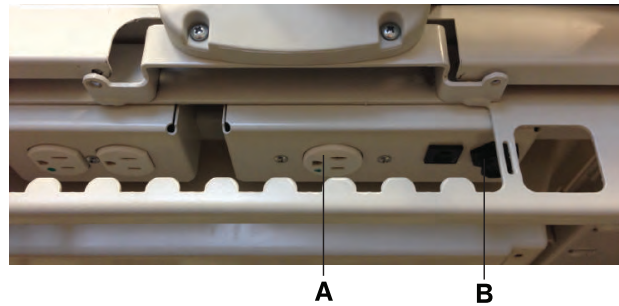

Figure 35: Auxiliary mattress connector outlet
2. Connect the integration cable from the support surface to the auxiliary mattress connector (B) (Figure 35 on page 53).
3. Plug the support surface power cord into the auxiliary mattress connector outlet (A) (Figure 35 on page 53).